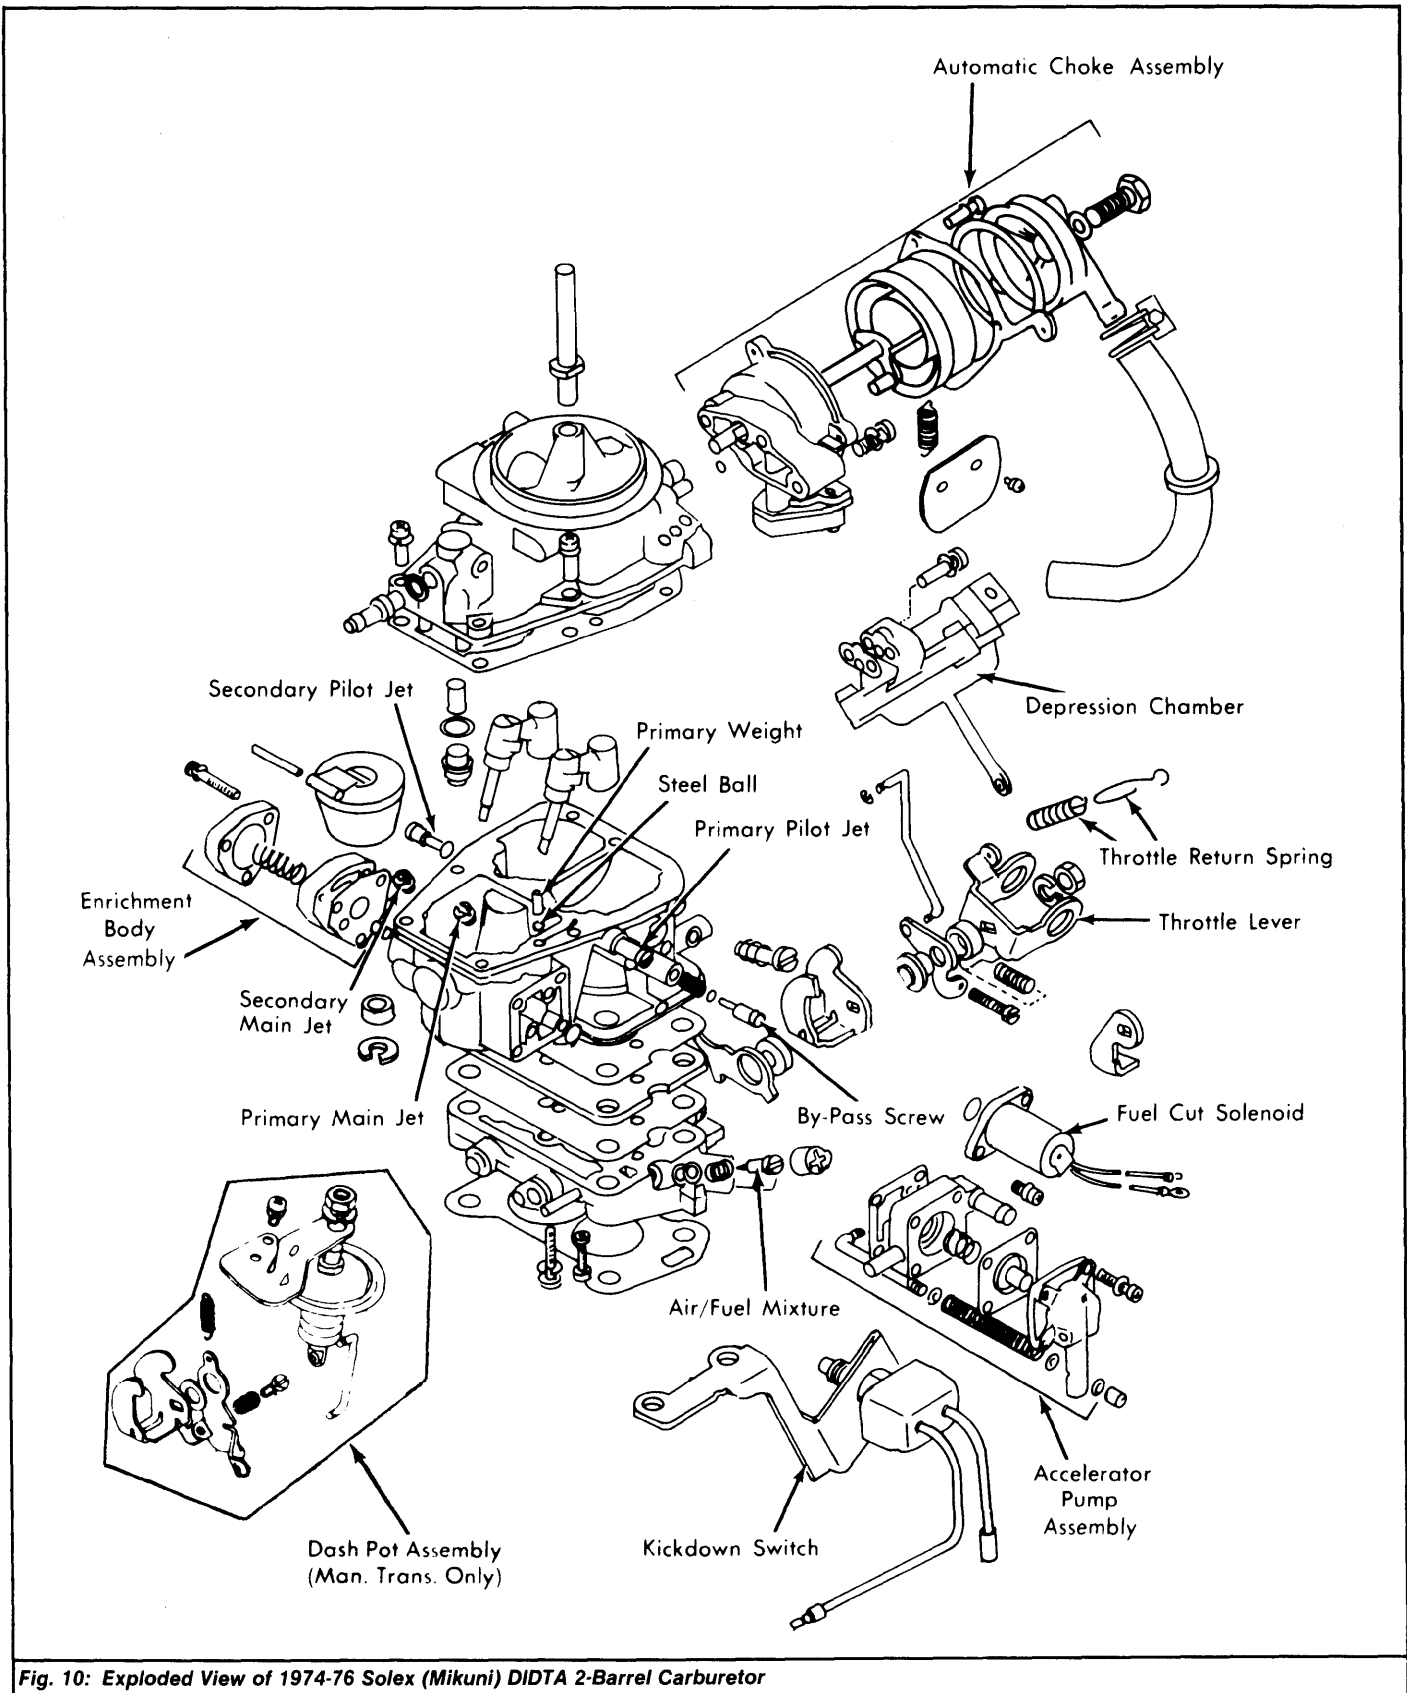

Fig. 10: Exploded View of 1974-76 Solex (Mikuni) DIDTA 2-Barrel Carburetor
2) Remove float cover assembly from main body, using a plastic hammer or handle of screwdriver to tap it free. Do not pry on cover when removing. Remove gasket. See Figs. 10 and 11.